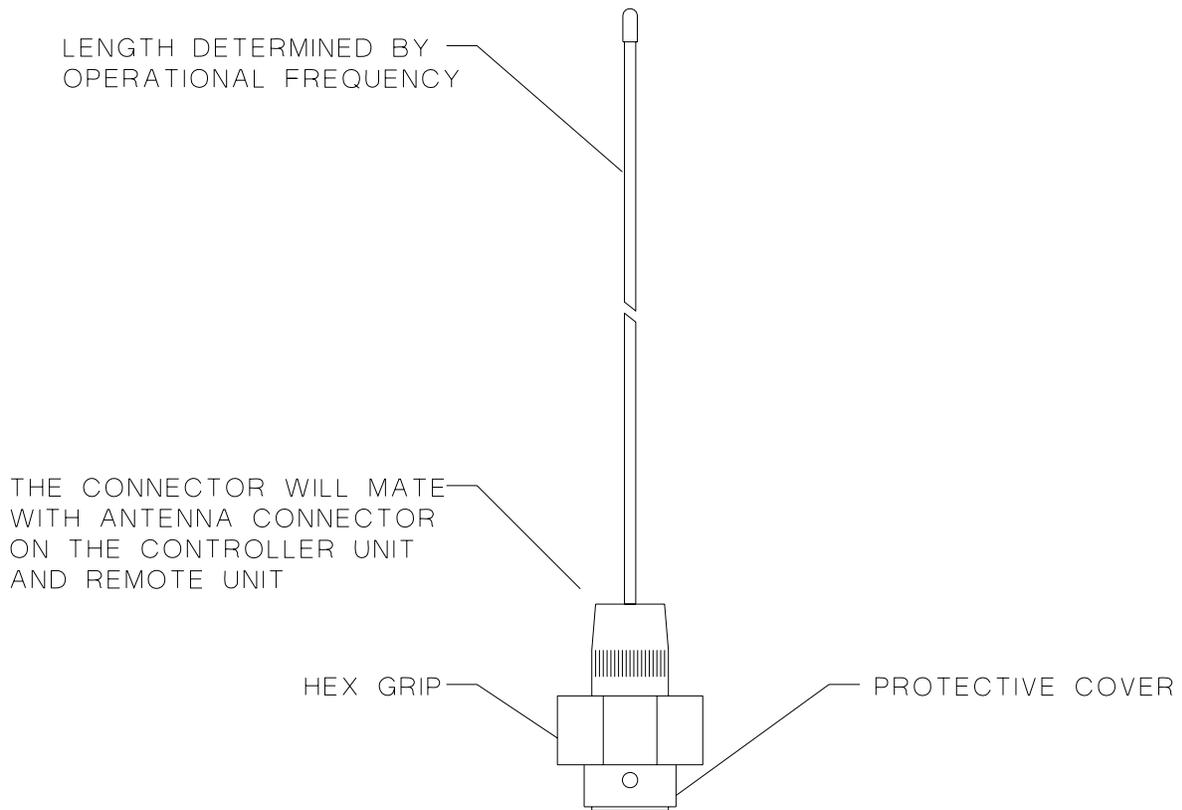

Figure 2-9 Antenna Assembly.
2.9.1. Figure 2-9. Provides the physical size, technical requirements and view of the Antenna Assembly. The power to the Controller Unit and Remote Unit is interrupted when the Antenna Assembly is not connected.